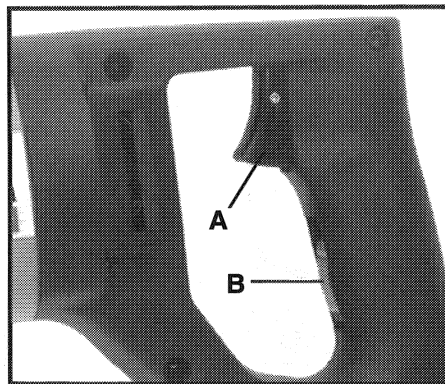

Fig. 2
2. Hold saw firmly. Squeeze trigger switch (A) Fig. 2, to start motor. Release trigger to stop motor.
The saw is equipped with a two-speed, slide switch (B) Fig. 2. For HIGH speed operation, move the slide switch to the upper position (toward the trigger switch). For LOW speed operation, move the slide switch to the lower position (away from trigger switch).